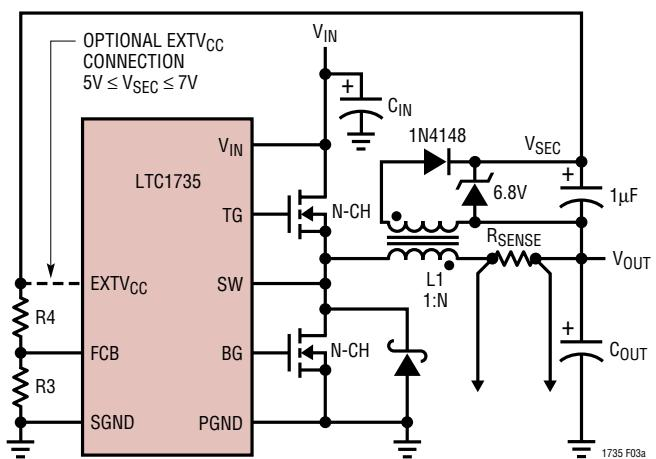
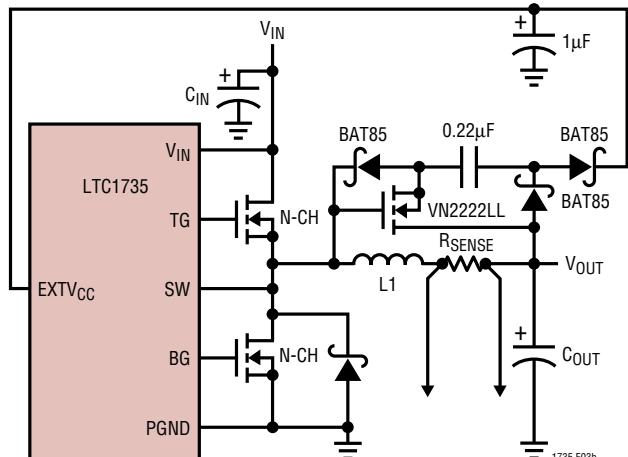

Figure 3a. Secondary Output Loop and EXTV_{CC} Connection
Figure 3b. Capacitive Charge Pump for EXTVcc
3. EXTV_{CC} connected to an output-derived boost network. For 3.3V and other low voltage regulators, efficiency gains can still be realized by connecting EXTV_{CC} to an output-derived voltage that has been boosted to greater than 4.7V. This can be done with either the inductive boost winding as shown in Figure 3a or the capacitive charge pump shown in Figure 3b. The charge pump has the advantage of simple magnetics.
In addition to providing a logic input to force continuous synchronous operation and external synchronization, the FCB pin provides a means to regulate a flyback winding output (refer to Figure 3a). During continuous mode, current flows continuously in the transformer primary. The secondary winding(s) draw current only when the bottom, synchronous switch is on. When primary load currents are low and/or the V_{IN}/V_{OUT} ratio is low, the synchronous switch may not be on for a sufficient amount of time to transfer power from the output capacitor to the secondary load. Forced continuous operation will support secondary windings provided there is sufficient synchronous switch duty factor. Thus, the FCB input pin removes the requirement that power must be drawn from the inductor primary in order to extract power from the auxiliary windings. With the loop in continuous mode, the auxiliary outputs may nominally be loaded without regard to the primary output load.
The secondary output voltage V_{SEC} is normally set as shown in Figure 3a by the turns ratio N of the transformer: